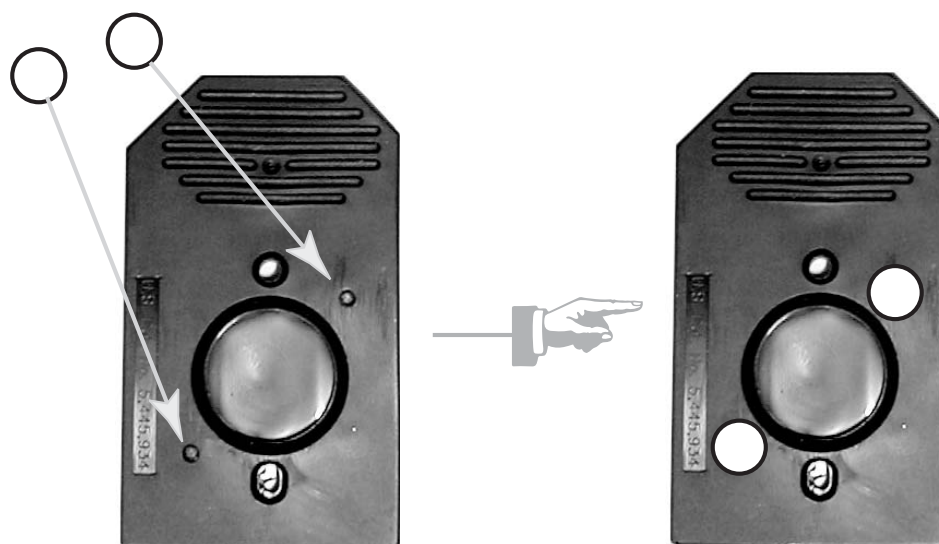

Figure 3.4.1
2. Carefully apply one Tough-Spot to each of the two septa. Press to ensure that the spots remain flat. If the Tough-Spots do not apply smoothly; that is, if you observe bumps, bubbles, tears or curled edges, do not attempt to smooth out the spot. Remove the spot and apply a new spot. See Figure 3.4.1.